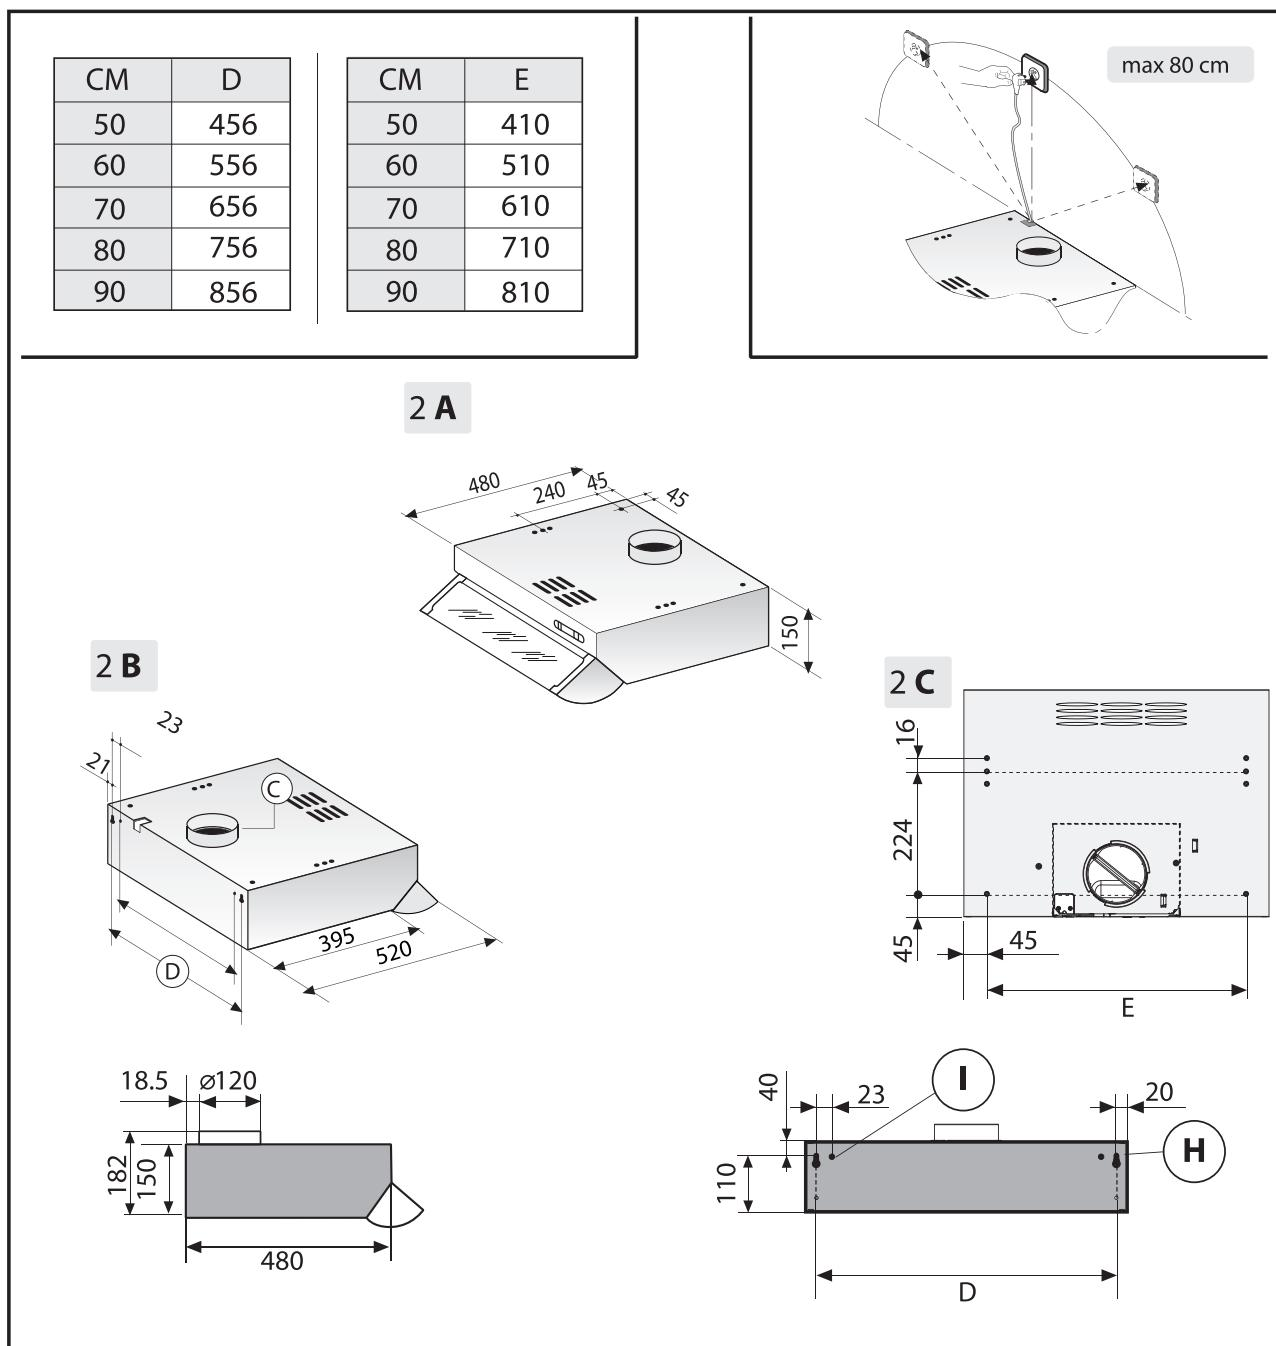

Fig.2
1. Fixing the hood to the lower part of the wall cabinet (Fig.2)
- Make 4 holes in the wall cabinet respecting the measurements indicated in figures 2 **A-2 C**.
2. Fixing the hood to the wall (Fig.2).
- Make 4 holes in the wall cabinet respecting the measurements indicated in figures 2 **A-2 B**. - Hang the hood on the wall, using the 2 holes **H**, align it in a horizontal position and fix it definitively to the wall using the two lower safety holes **I** (Fig. 2B). For the various installations use screws and screw anchors suited to the type of wall (e.g. reinforced concrete, plasterboard, etc.). If the screws and screw anchors are provided with the product, check that they are suitable for the type of wall on which the hood is to be fixed.